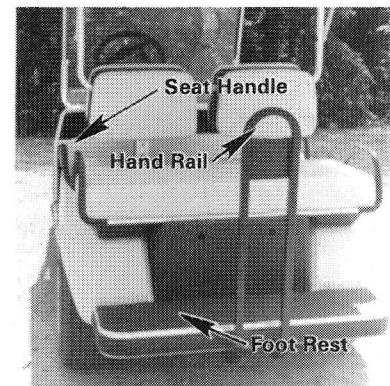

Figure 11
3. Be sure everyone is seated and holding onto seat handles or handrail (See Figure 11).